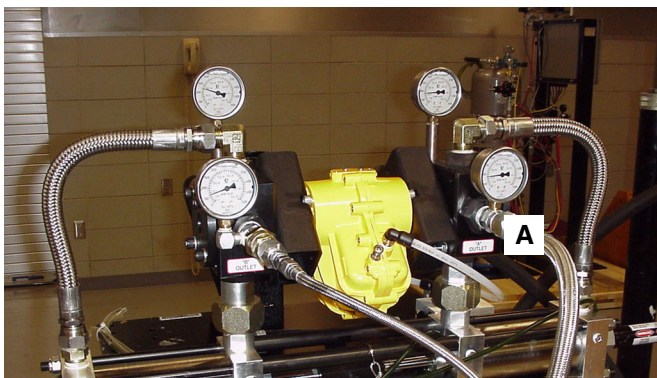

FIG. 18
2. Close the main air shutoff valve (A), FIG. 18.